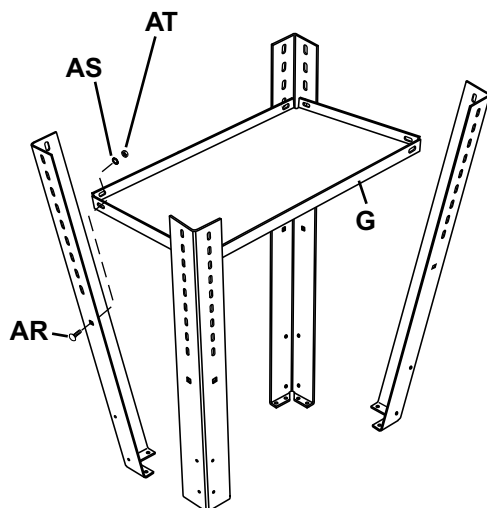

Figure 12
1. Align holes in legs to holes in corners of tool tray (G). See Figure 12.
2. Use 8 carriage bolts (AR), 8 toothed washers (AS), and 8 hex nuts (AT) to attach the tray to the legs. Tighten securely.